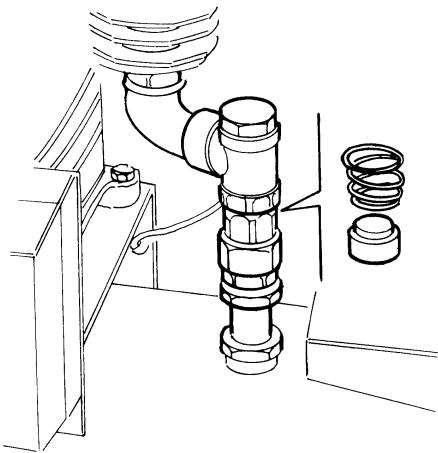

fig. 14
- control the check valve and clean the single components (fig. 14).